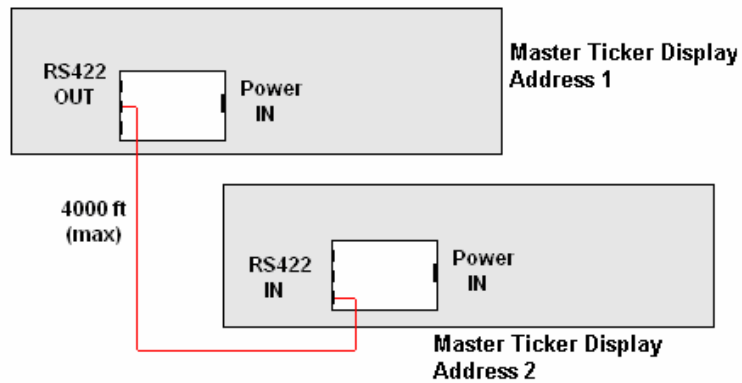

Figure 16: Master to Master RS-422 Connection
2. Connection between displays will always be RS-422. Connect from RS-422 OUT on the first display to RS-422 IN on the second display (**Figure 16**).